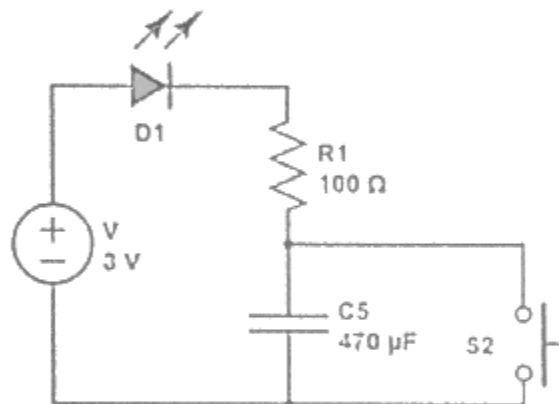

Figure 1
1. Build the RC circuit shown in Figure 1.